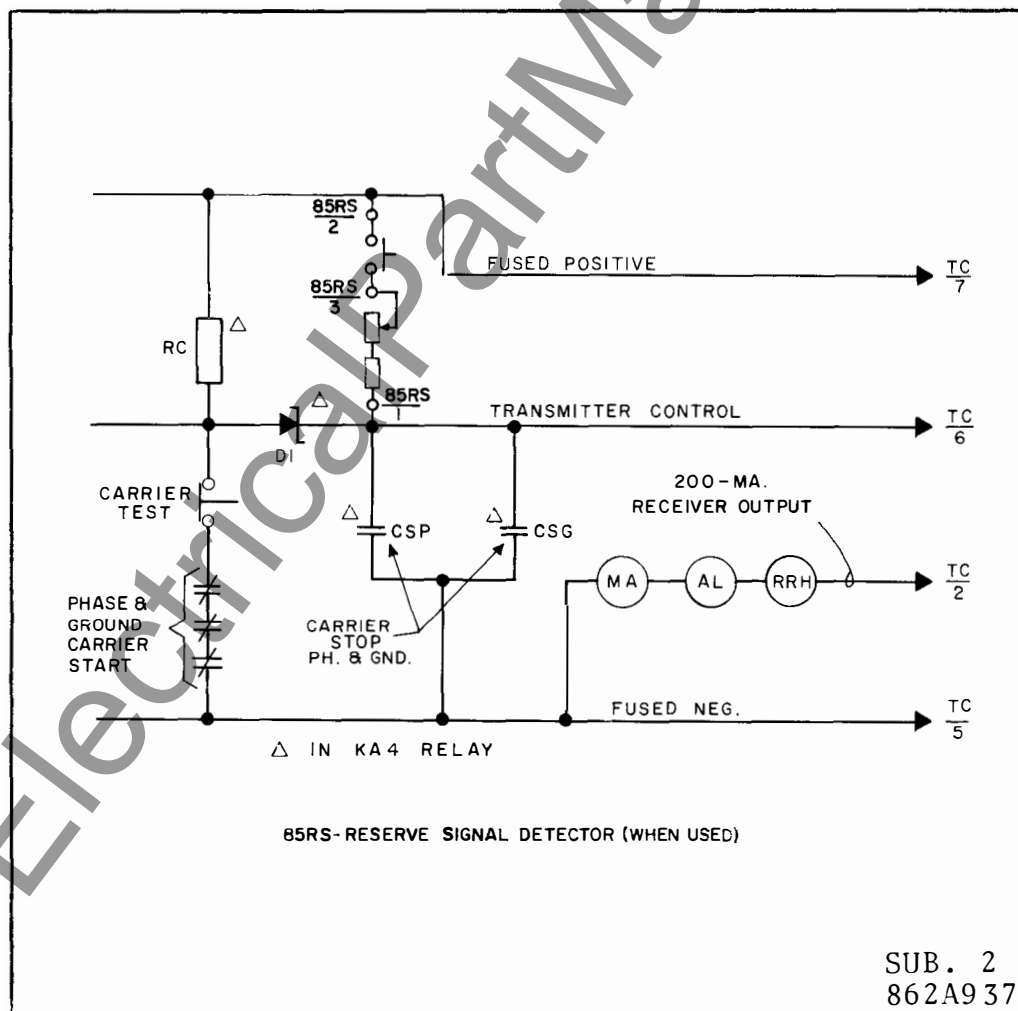

Fig. 4. Elementary K-Dar/TC Carrier Control Circuit.
1. Add "Fig. 4. Elementary K-Dar/TC Carrier Control Circuits."
NOTE: Fig. 4 and 5 are shown on this sheet.